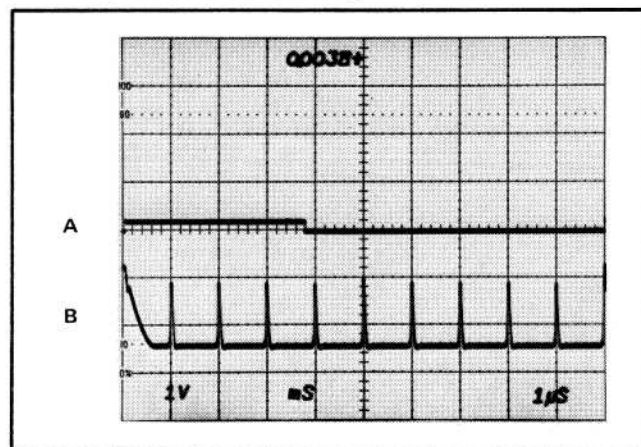

Fig. 1-4. Waveform display of: (A) Delay Interval Pedestal; (B) input signal.
Delay-Interval Pedestal. This output provides an on-screen display of the approximate delay interval. To view the pedestal display, the 7D11 must be installed in a vertical plug-in compartment and be selected by the mainframe Vertical Mode switch. The position of this display is fixed near the vertical center of the graticule area. The Delay-Interval Pedestal display is shown in Fig. 1-4 (A). The input signal, shown in Fig. 1-4 (B), is comprised of one- and ten-microsecond time markers. The 7D11 is set to trigger on the ten-microsecond markers, and to generate a 0.0038-millisecond delay time.